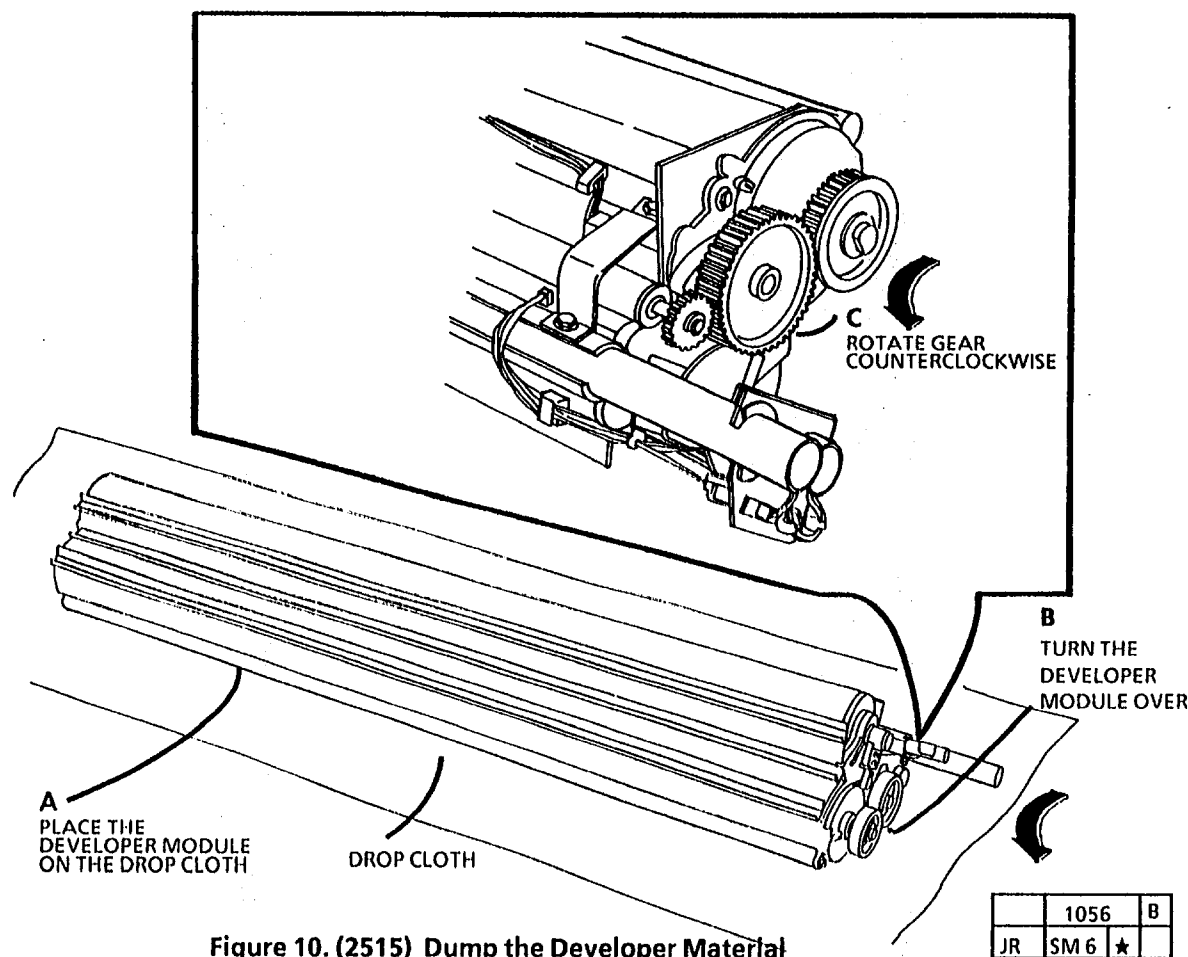

Figure 10. (2515) Dump the Developer Material
13. (2515, Figure 10): Dump the developer material.